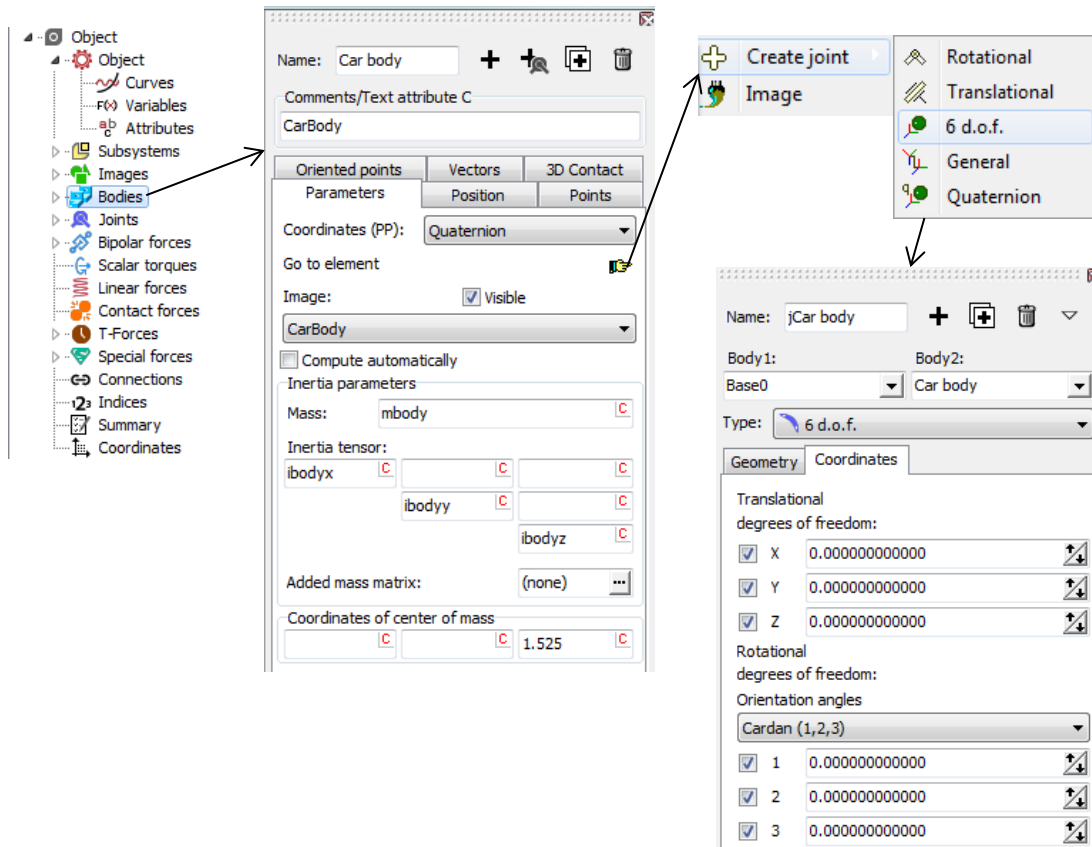

Figure 2.18. Adding car body and its joint
2. Fill out the inspector window like Figure 2.18: choose the corresponding image from the list, set inertia parameters as identifiers: